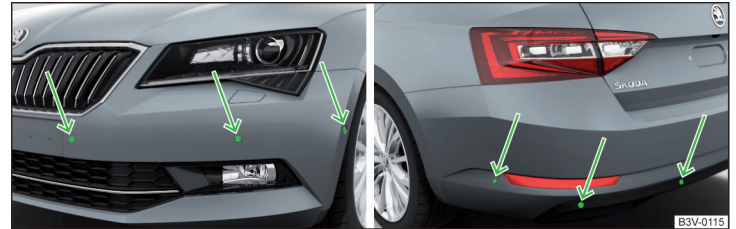

Fig. 268 Installation location of the sensors on the left side of the vehicle: front/rear
- Keep the system sensors » Fig. 268 on page 219 clean, snow-and ice-free and do not cover with any objects of any kind, otherwise the system functioning may be impaired.
The system uses ultrasound waves to calculate the distance between the bumper and an obstacle. The ultrasonic sensors are, depending on vehicle equipment,, located in the back or in the front bumper » Fig. 268.